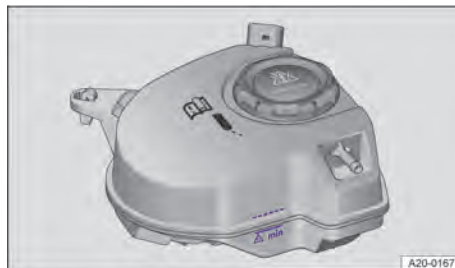

Fig. 200 In the engine compartment: mark on the coolant expansion tank (illustration).
1. When the engine is cold, check the coolant level at the side markings of the coolant expansion tank → Fig. 200.
4. The coolant level must be between the markings on the coolant expansion tank → Fig. 200.